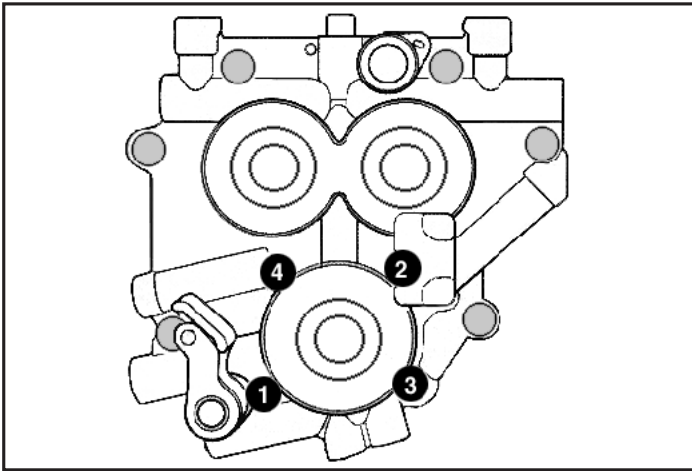

Figure 1
12. Following sequence shown in **Figure 1**, alternately loosen and remove oil pump bolts.
22. Install oil pump mounting bolts with a drop of blue thread locker according to procedure found in factory service manual: Gently bottom screws, then back them out 1/4 turn. Center oil pump by rotating engine by hand while snugging down screws. Alternately tighten bolts to 95 in-lbs. torque in sequence shown in **Figure 1 on Page 4.** Before proceeding with installation, verify that inner gears rotate freely and no binding is present.